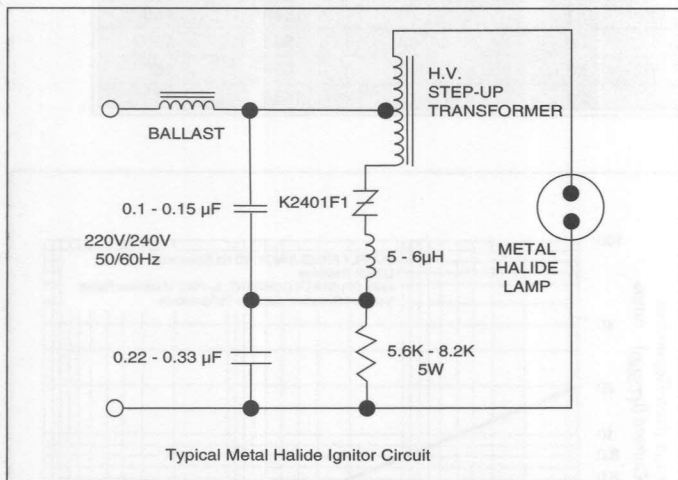

Figure 9.3 Typical Metal Halide Ignitor Circuit
- Teccor's new, improved series of sidacs is designed to ensure good commutation at higher switching frequencies as required in ignitor circuits for high intensity discharge (HID) lighting. A typical circuit for a metal halide lamp ignitor is shown in the schematic, Figure 9.3. With proper component selection this circuit will produce three pulses for ignition of Osram lamp types such as HQI-T70W, HQI-T150W, and HQI-T250W which require a minimum of three pulses at 4kV magnitude and $>1\mu\text{s}$ duration each at a minimum repetition rate of 3.3kHz.